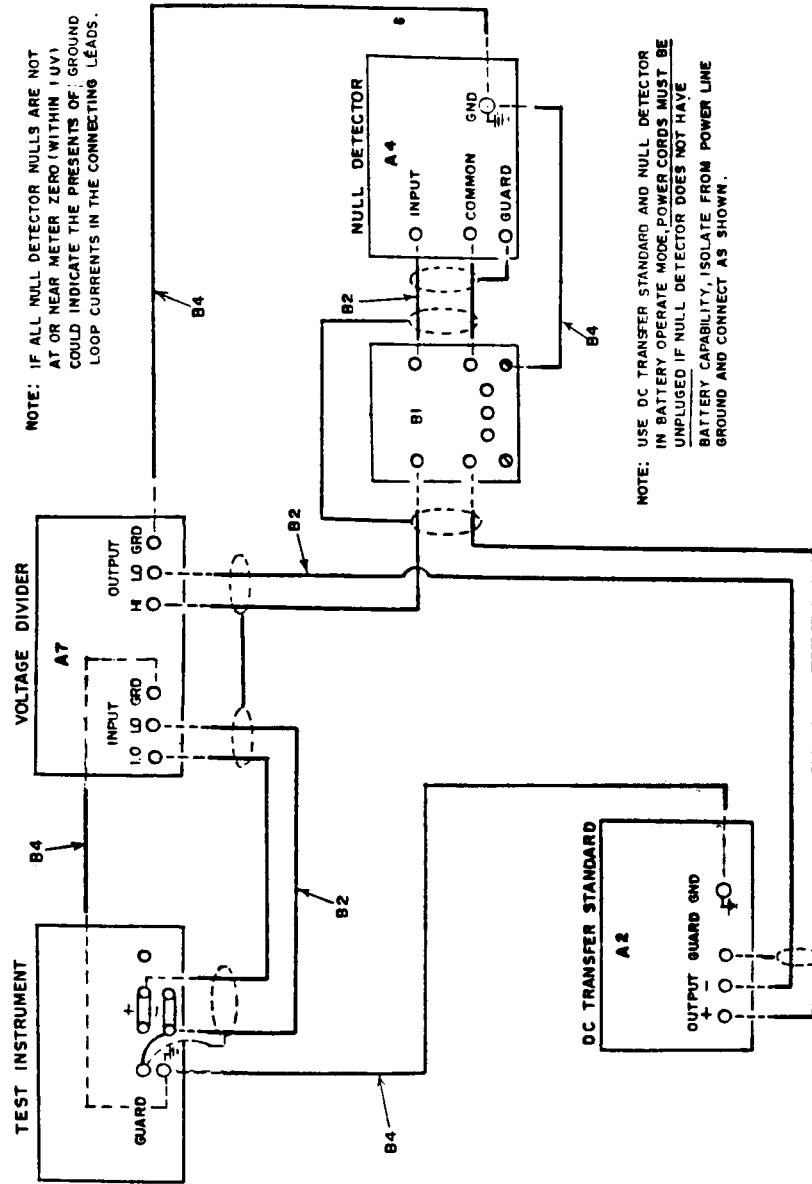

Figure 1. Measurement of  $1.018 + \Delta E$  output of dc transfer standard - equipment setup.
**i.** It is necessary to know actual value of  $1.018 + \Delta E$  output of dc transfer standard (A2) to complete this calibration. If calibration of dc transfer standard is no more than 10 days old, the value recorded at time of calibration is sufficient. If calibration is more than 10 days old, determine the value by performing (1) through (11) below:
- (1) Connect equipment as shown in figure 1.